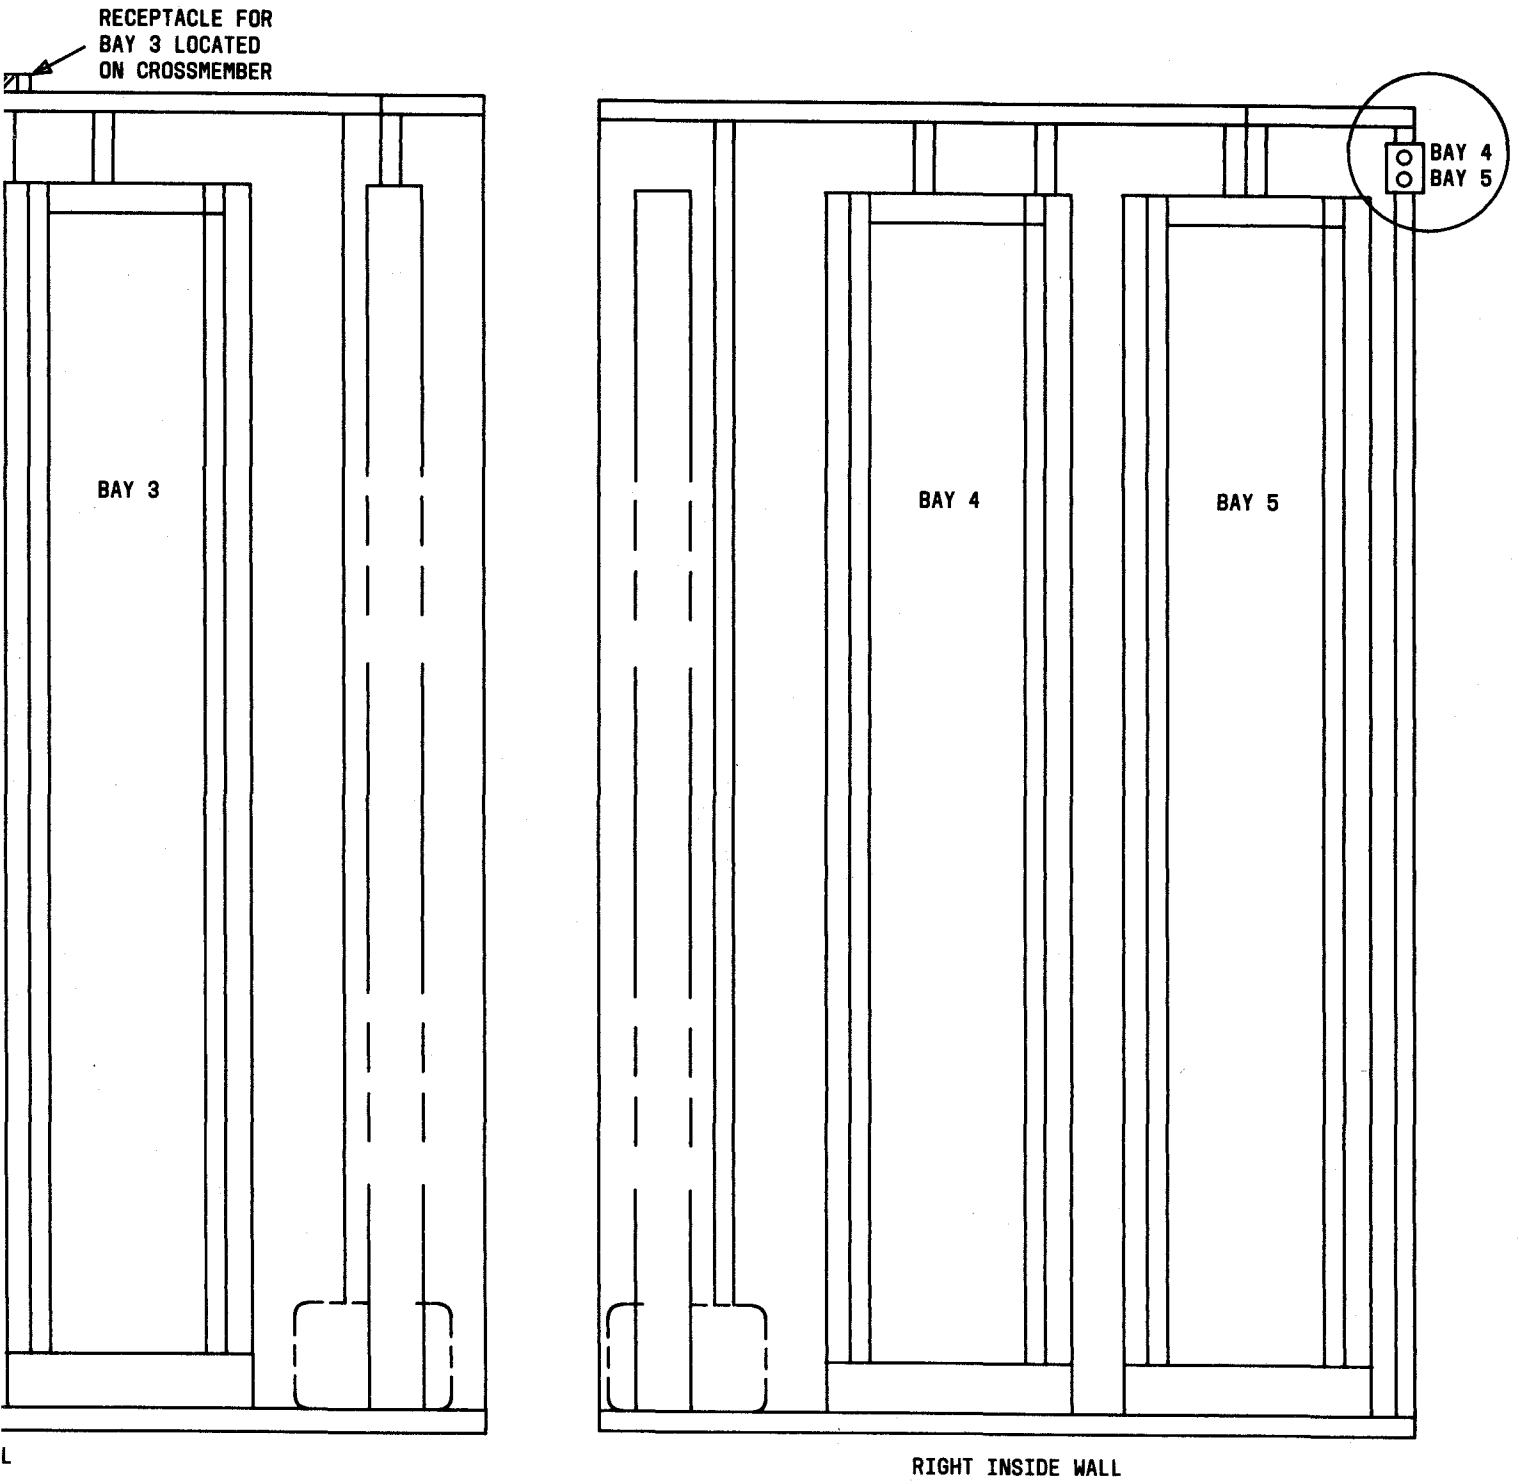

Fig. 5—Location of Receptacles (Optional)
6.05 An alternate method of providing ac outlets for ac power to the bays is to have receptacles distributed around the hut to allow the use of shorter cords. Optional locations for these receptacles are shown in Fig. 5. Grounding, 15-amp, 125-volt outlets or better are required.